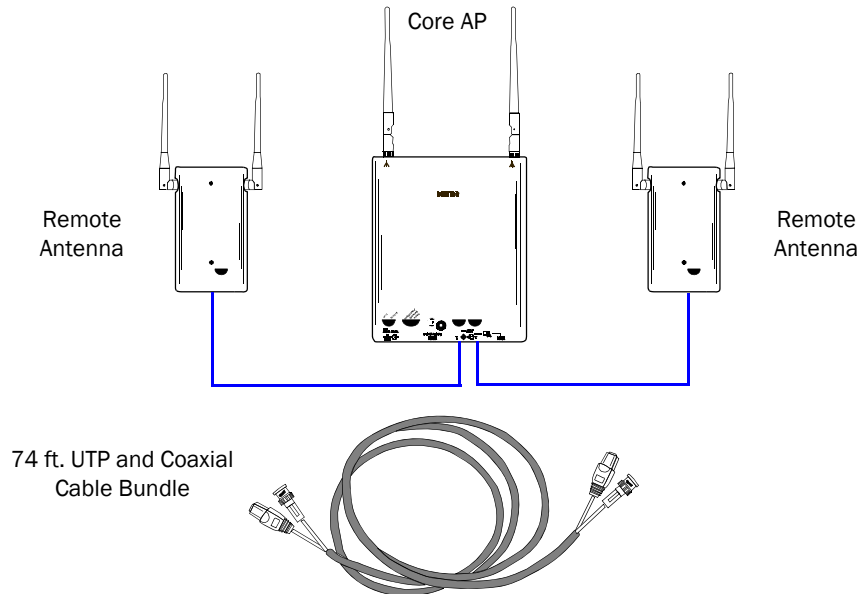

Figure 1-2: IntelliVue Smart-hopping Core Access Point with Remote Antennas
The IntelliVue Smart-hopping Core Access Point (AP) and remote antennas (RA), shown in Figure 1-2, provide an air-link to transmit and receive data between IntelliVue Smart-hopping IntelliVue Patient Monitors and the Patient Information Center iX (PIC iX) via the IntelliVue Smart-hopping infrastructure.